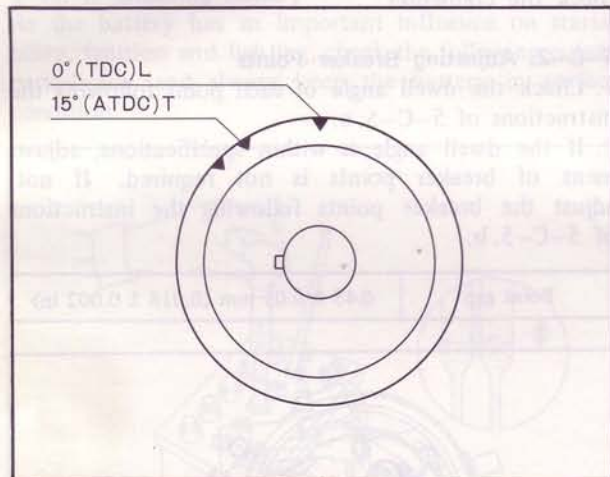

Fig. 5-5 Timing marks
1. Turn the eccentric shaft until the TDC mark on the drive pulley aligns with the indicator pin on the front cover. (See Fig. 5-5)